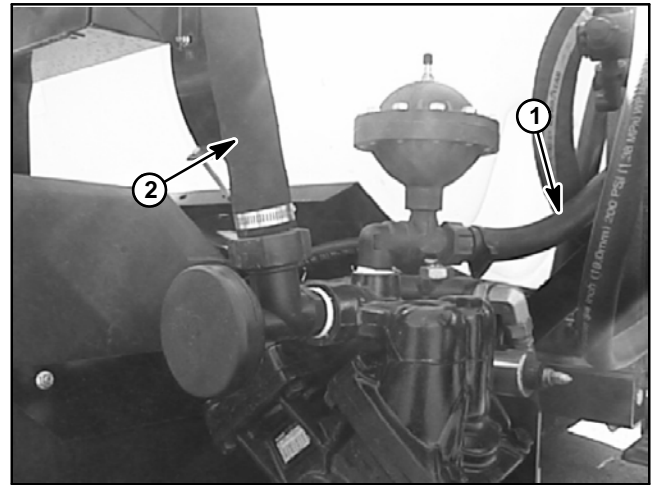

Figure 7
2. Loosen hose clamp that secures suction hose to hose barb (Fig. 7). Pull suction hose from hose barb.
3. Loosen hose clamp that secures pressure hose to hose barb (Fig. 7). Pull pressure hose from hose barb.
4. Remove flange head screw and flange nut that secure front and rear guard plate. Remove four (4) flange nuts that retain guard plates to pump mount bracket. Remove guard plates from machine.
11. Install pressure and suction hoses to correct barb fittings (Fig. 7). Secure hoses with hose clamps.